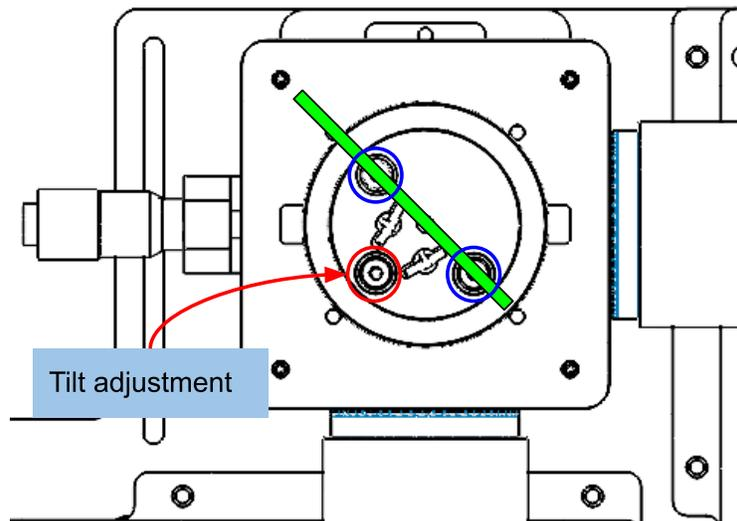

Fig. 18. The tilt adjustment of the dichroic filter
- If two grid patterns are not parallel, there is angular misalignment. You can adjust the tilt angles by rotating two adjusters in **Fig. 18** (red circles)